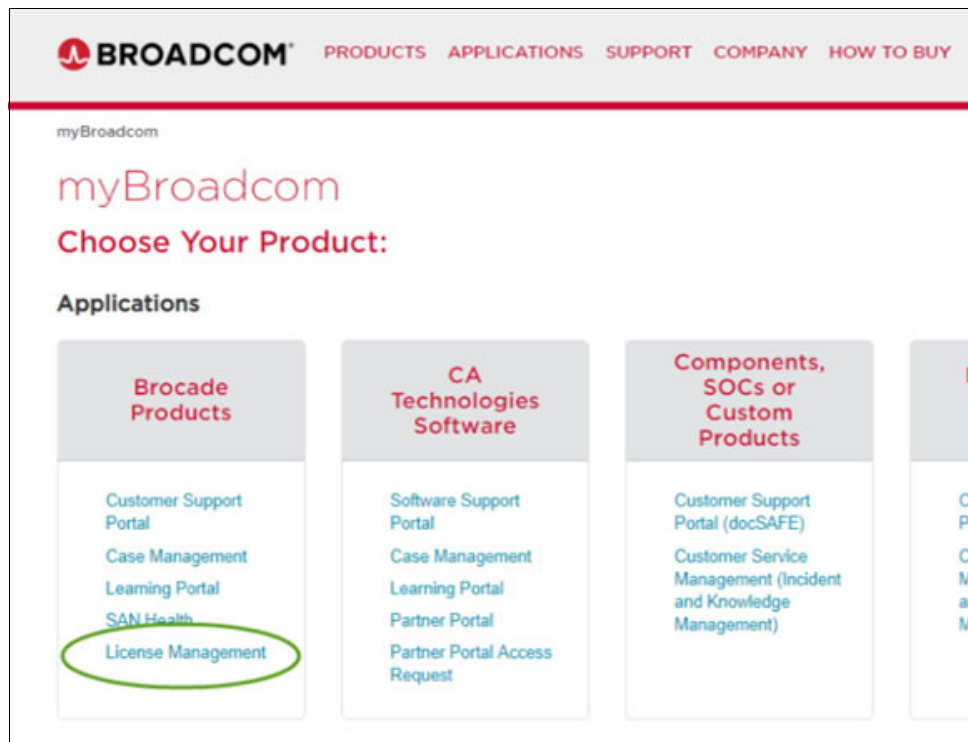

Figure 11-42 License Management option
3. Click **License Management** in the Brocade Products section (see Figure 11-42).